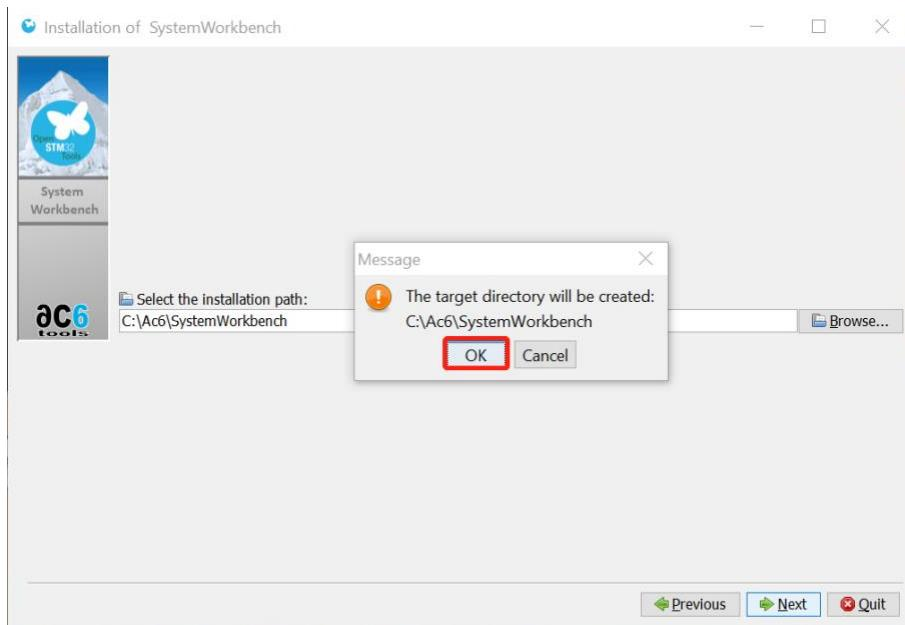

Figure 6: Create the installation directory
7. Click OK in the pop-up window. See Figure 6.